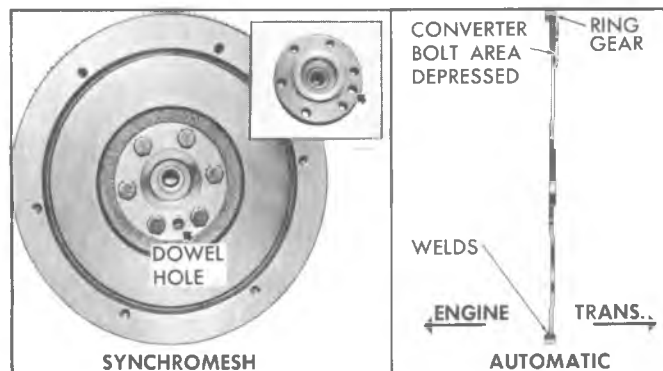

Fig. 21L—Flywheel Installation (Typical)
2. Install flywheel on crankshaft and position to align dowel hole of crankshaft flange and flywheel (fig. 21L).